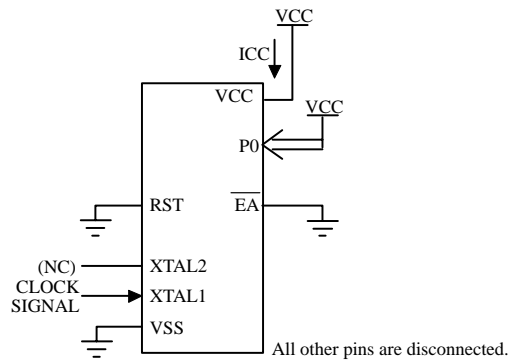

Figure 9 ICC Test Condition, Idle Mode
- Idle I_{CC} is measured with all output pins disconnected; XTAL1 driven with TCLCH, TCHCL = 5ns, V_{IL} = V_{SS} + 0.5V, V_{IH} = V_{CC} - 0.5V; XTAL2 N.C.; Port 0 = V_{CC}; $\overline{\text{EA}}$ = RST = V_{SS} (see Figure 9).